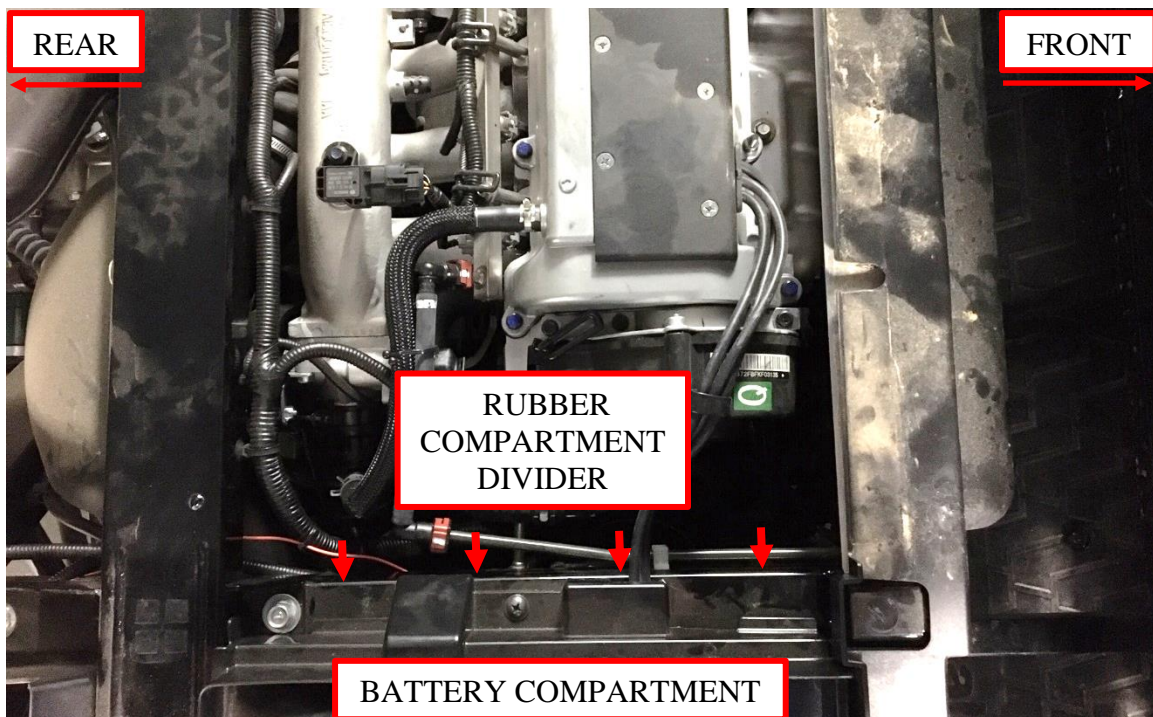
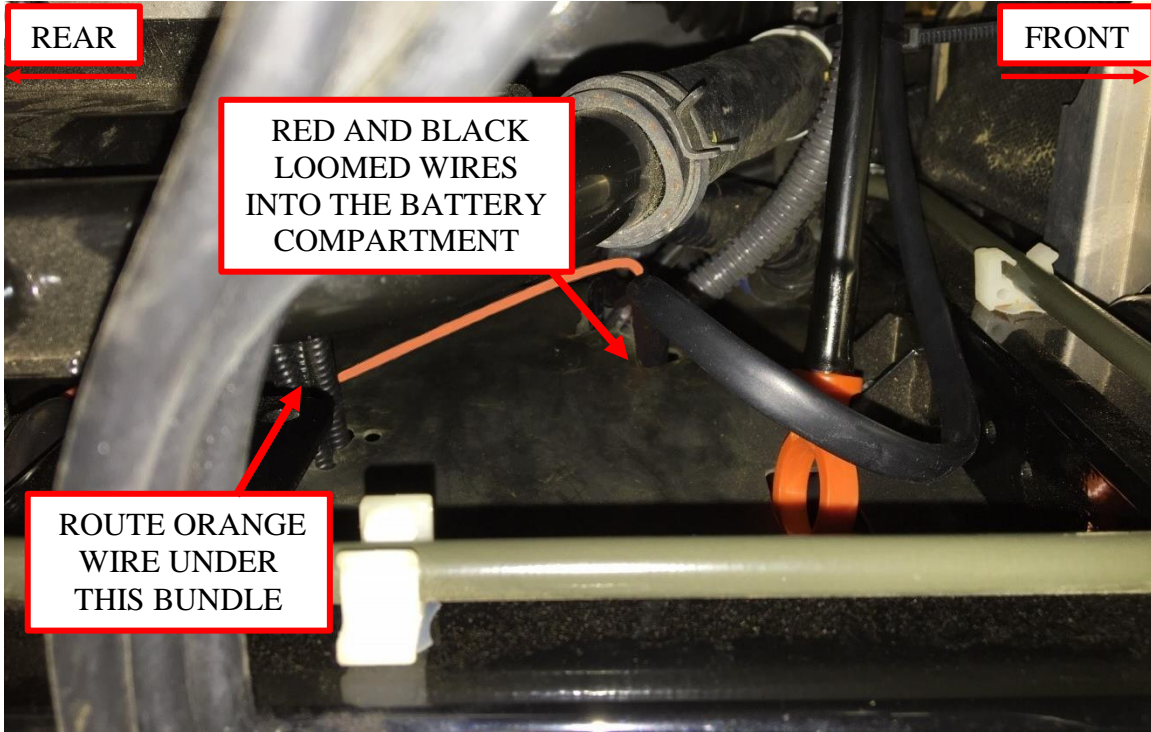
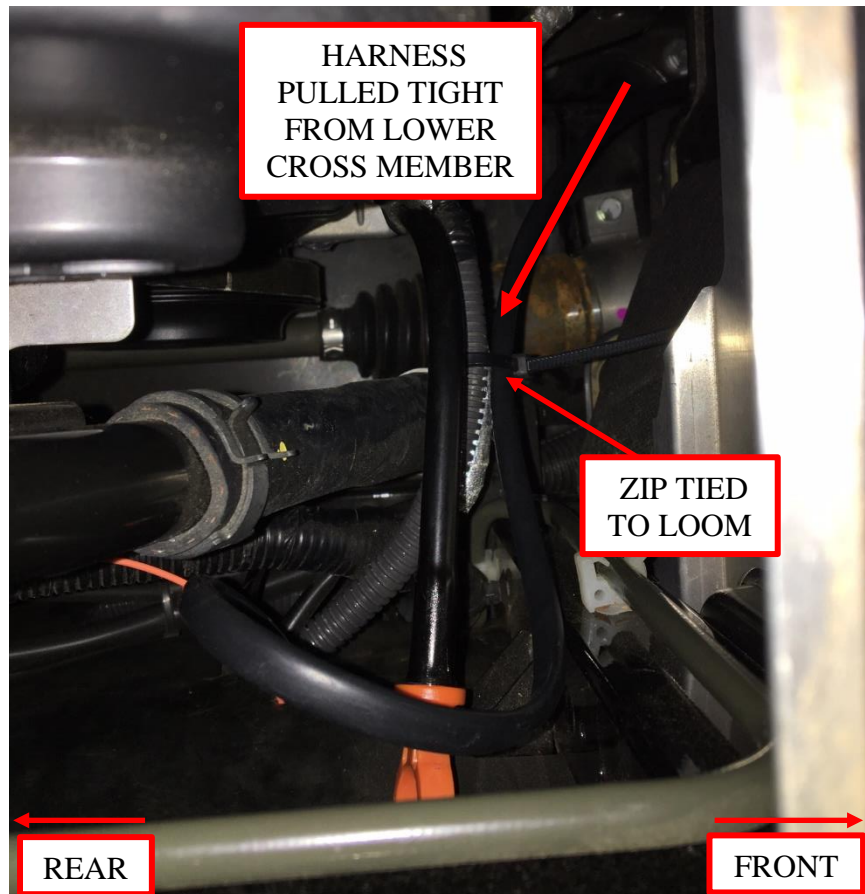

Figure 16: Compartment overview under rear seat and/or bed.
Figure 17: Red and black harness wires go into the battery compartment.
Figure 18: Secure the harness to the factory loom.
14. Route the harness from the lower cross member into the engine compartment, then run the black and red wires (with fuse holder) into the battery compartment through the hole in the black rubber divider. The orange wire will be routed further back in the next steps. Ensure clearance of the drive shaft by pulling the harness tight when securing it with a zip tie. See Figure 16, Figure 17, and Figure 18.